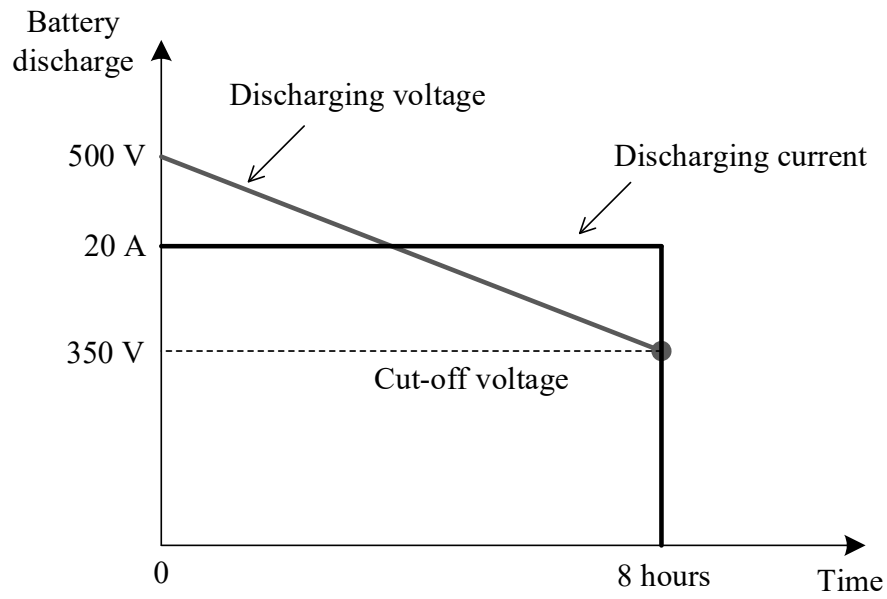

Fig. Q3c
- 2) According to Fig. Q3c, the battery pack is discharged at a constant current of 20 A, and its voltage drops from the initial voltage of 500 V to the cut-off voltage of 350 V. Calculate the energy capacity of the battery in electric vehicles. (2 marks)